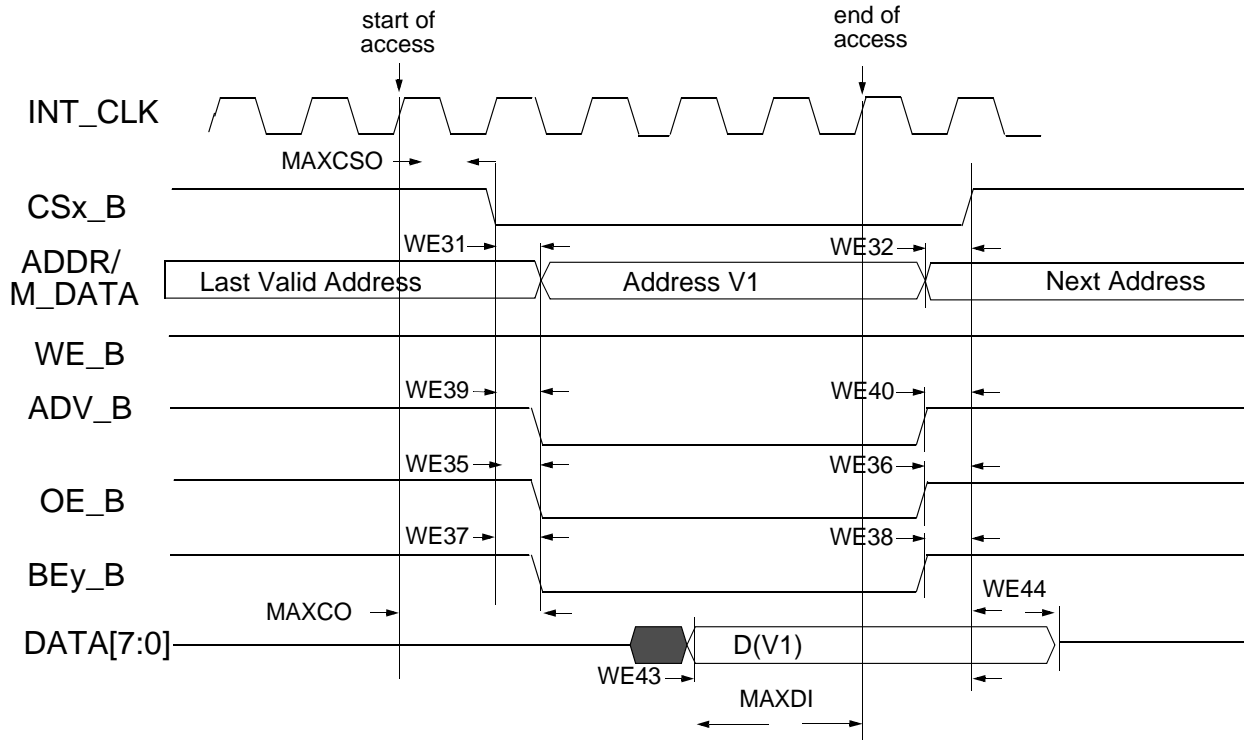
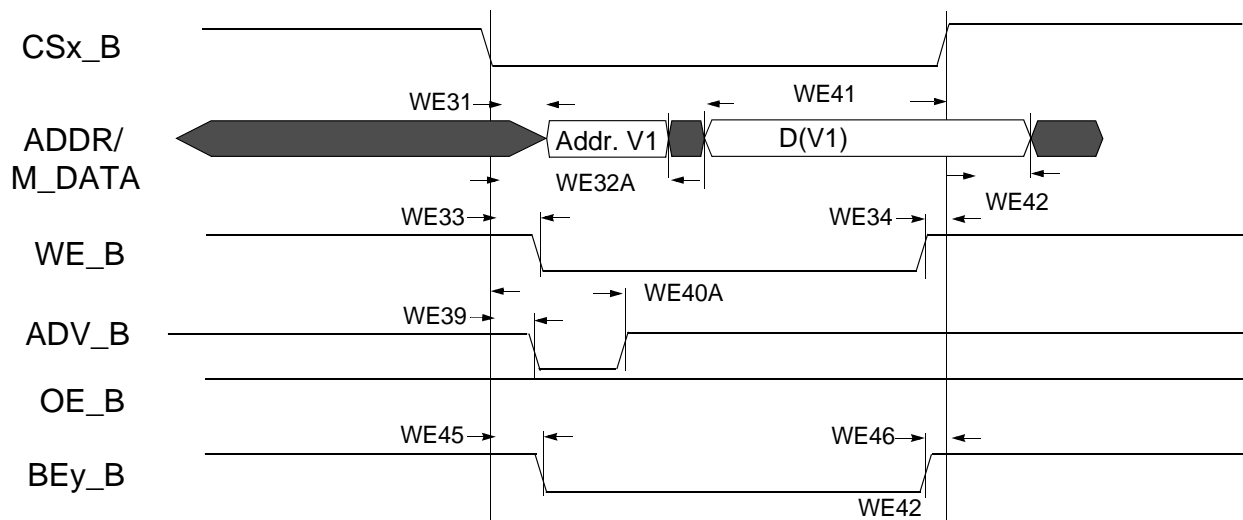
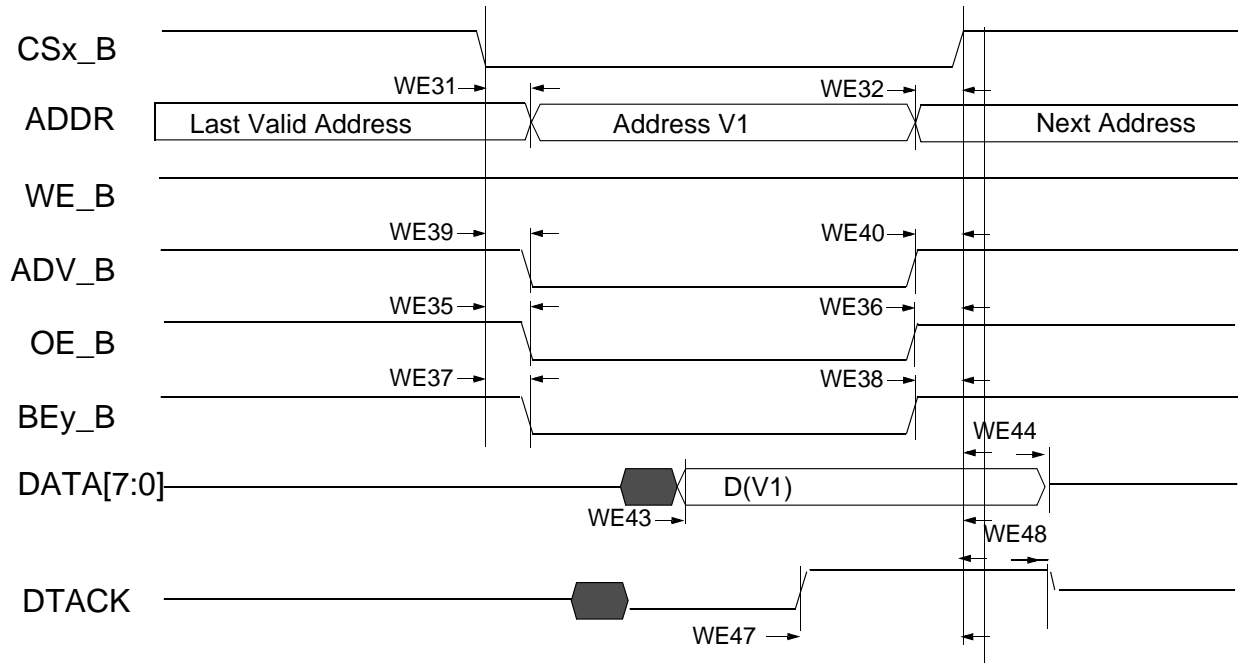

Figure 22. Asynchronous Memory Read Access (RWSC = 5, OEN=CSN=0)
Figure 25. Asynchronous A/D Muxed Write Access (RWSC = 5, OEN=CSN=0)
Figure 26. DTACK Read Access(DAP=0)
Figure 22 through Figure 26, and Table 39 help to determine timing parameters relative to the chip select (CS) state for asynchronous and DTACK EIM accesses with corresponding EIM bit fields and the timing parameters mentioned above.
Asynchronous read & write access length in cycles may vary from what is shown in Figure 22 through Figure 25 as RWSC, OEN & CSN is configured differently. Refer to i.MX53xDRM for the EIM programming model.